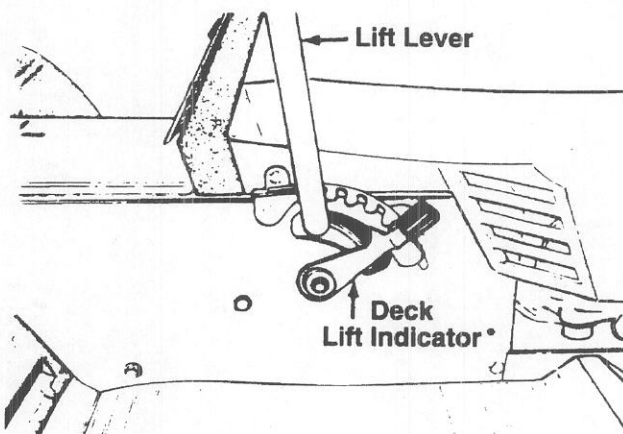

FIGURE 11.
**NOTE:** The lift lever **must** be in the **BLADES OFF** position when starting the engine, when shifting into reverse and if the operator leaves the seat. See figure 11.
The deck lift indicator marks the position being used for the lift lever. Select the lift lever position desired, press the indicator lever outward, move it to the position immediately below the lift lever and release the indicator lever. See figure 11.